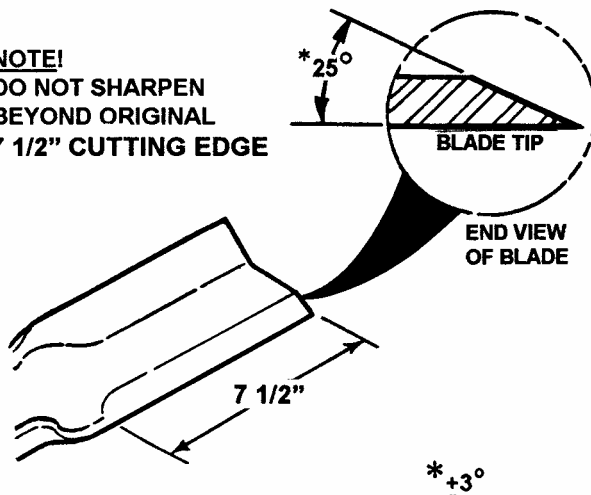

FIGURE 19
2. Sharpen it on a grinding wheel at an angle of 22 to 28 degrees. The cutting surface should extend in about 7-1/2 inches from the tips. See Figure 19.